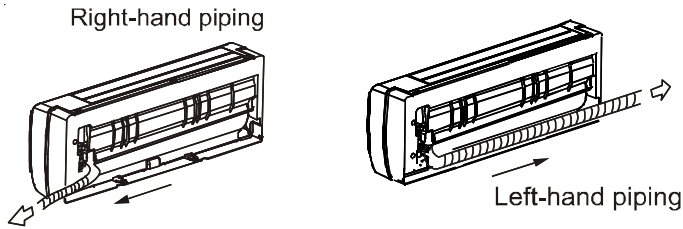

Figure 8
7. **REFRIGERANT PIPING INSTALLATION:** For the left-hand and right-hand piping, remove the pipe cover from the side panel. (Figure 8.)